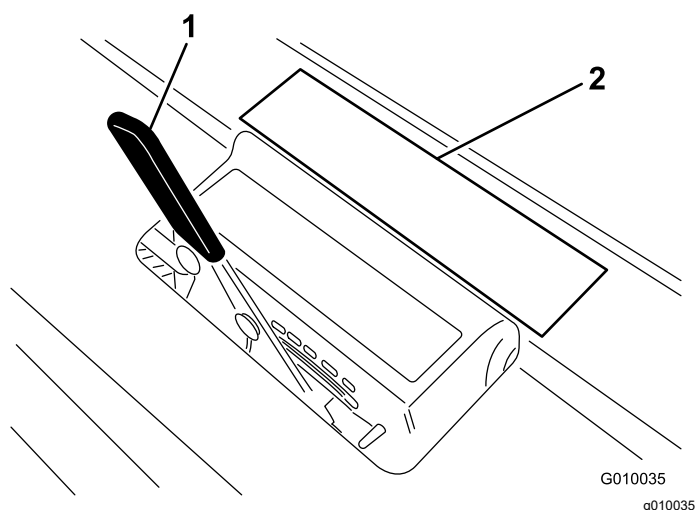

Figure 16
3. Lay the tine on the tine depth decal (Figure 16) with 1 end lined up with the desired depth of aeration (refer to the tine overlay on the decal).